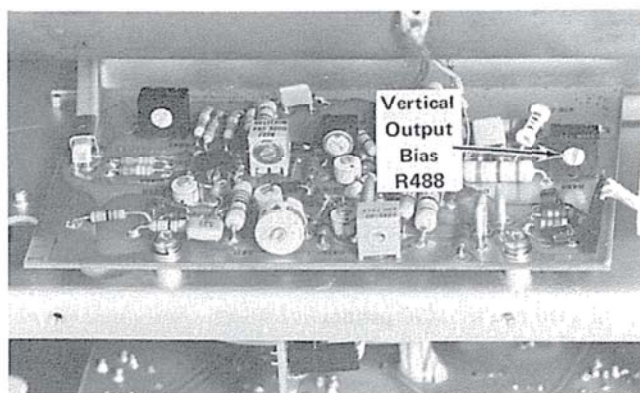

Fig. 5-5. Location of Vertical Output Bias adjustment.
c. ADJUST—Vertical Output Bias adjustment, R488 (see Fig. 5-5) for maximum deflection of the signal.